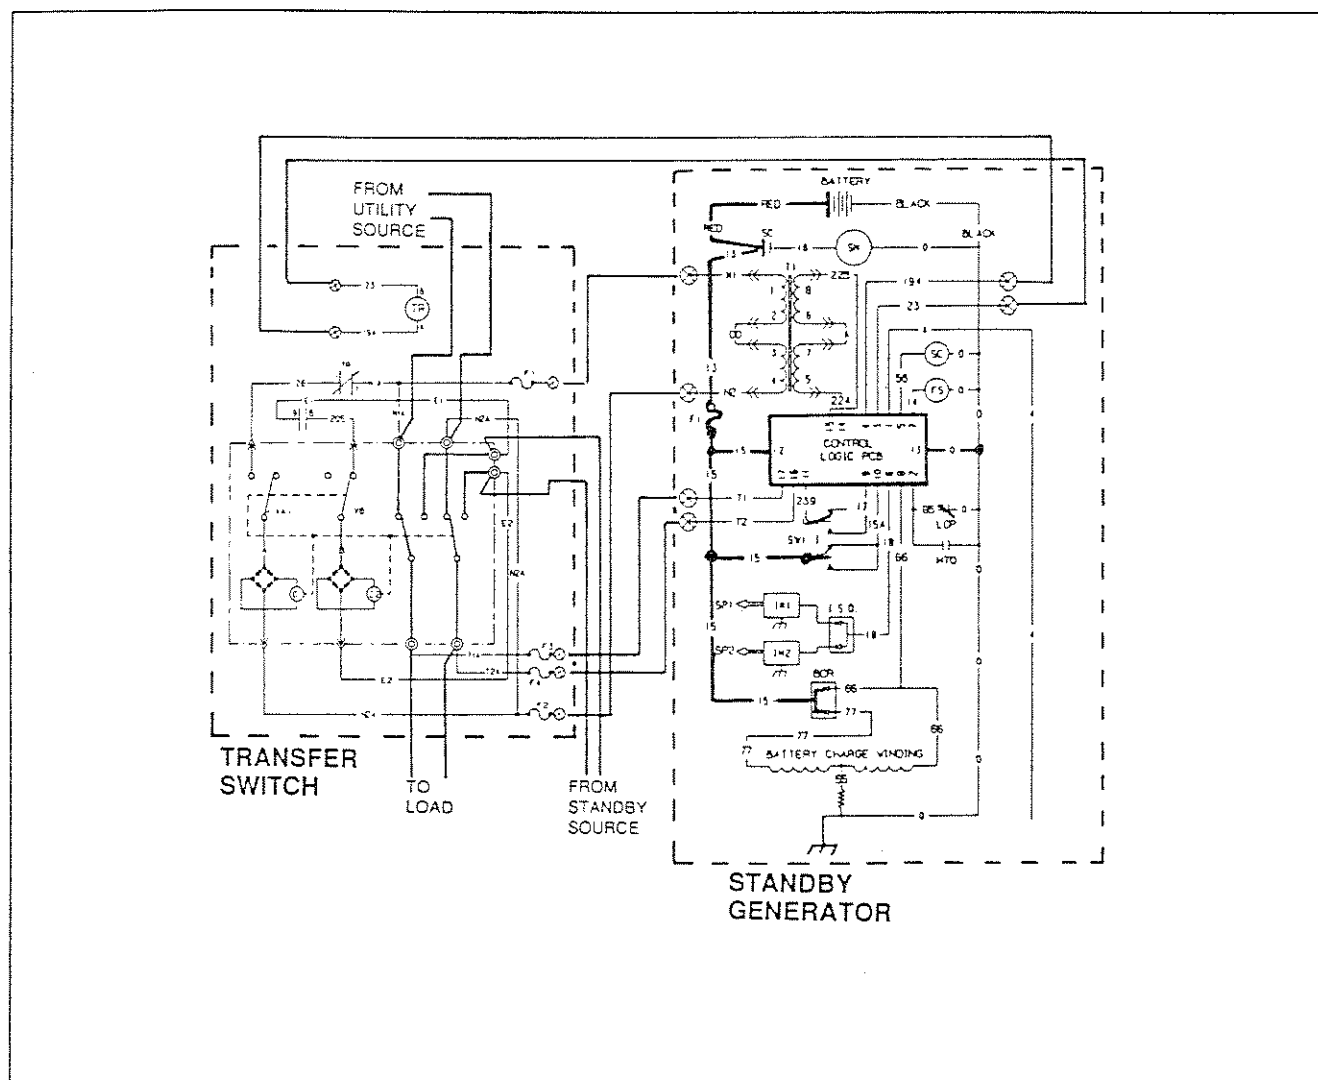

Figure 2. Circuit Condition- Initial Dropout of Utility Source Voltage
Refer to Figure 2, below. Should a "Utility" power source failure occur, circuit condition may be briefly described as follows:
- In Figure 2, the 6-second timer is still timing and engine cranking has not yet begun.